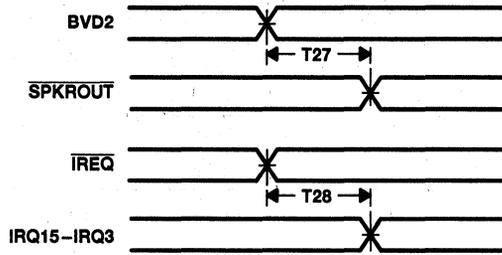

Figure 10. Miscellaneous PC Card Delay Times
**switching characteristics over recommended ranges of supply voltage and operating free-air temperature, miscellaneous (see Figure 10)**